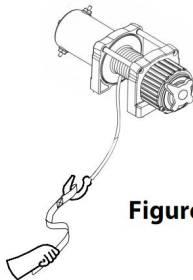

Figure 2
9. **ALWAYS USE THE HAND SAVER** When guiding the wire rope in or out. (See Figure 2).